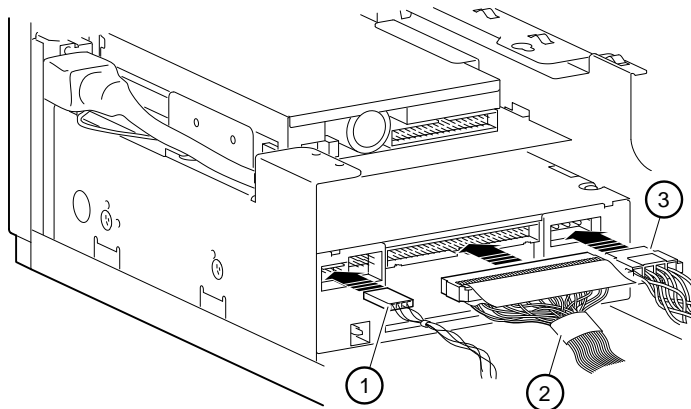

Figure 3-20. Cabling Drive
7. Connect the audio ① (for CD drives), SCSI ②, and power ③ cables, as Figure 3-20 shows.